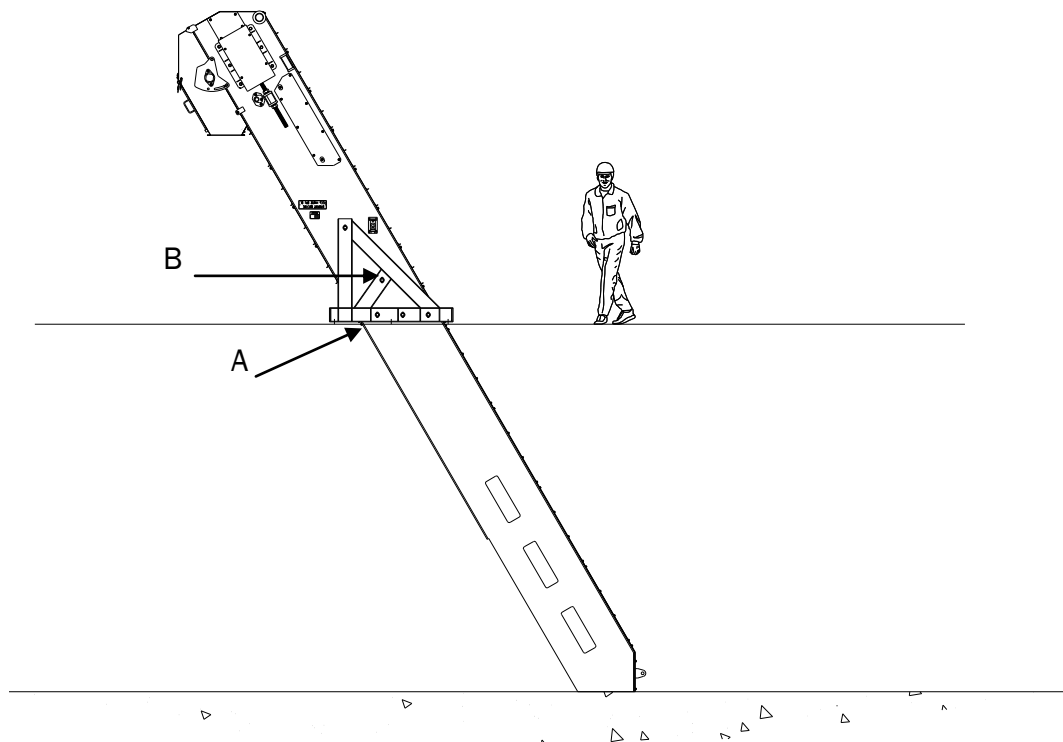

Figure 2-4 Positioning the Aqua-Screen® in the Channel
Lift the Aqua-Screen® into the building, positioning it above the channel. Guide it into the channel. Any contact between the sides of the screen and the walls at the channel must be avoided. See figure 2-4.
1. Using a 152.4 cm level, check that the lower member of the support stand ("A" in figure 2-4) is level in perpendicular angles along the ground. Check that the middle member of the support stand ("B") is plumb and that the angle of the Aqua-Screen® (85°) is correct. If necessary, carefully place shims under the lower member of the support frame ("A" in figure 2-4 below). Grout if needed.
2. Attach the support stand assembly. Secure the support stand to the floor with anchor bolts. Use 25.4 mm anchor bolts as specified on the General Arrangement -1 project-specific drawing (anchor detail B). Torque the anchor bolts. Torque the upper bolts in the centre member of the support stand ("B" in figure 2-4).